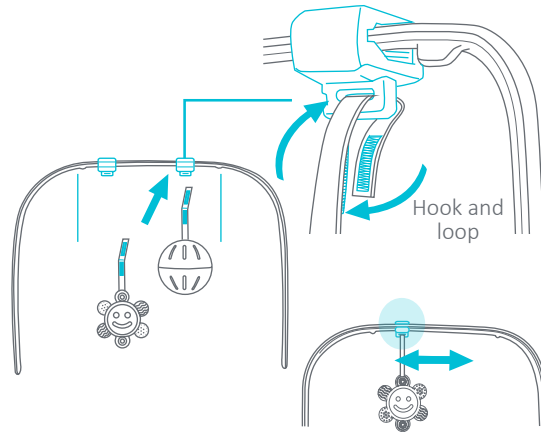

Fig. 8a
**NOTE:** slider between the tabs for toys to slide on the toy bar track (Fig. 8a).